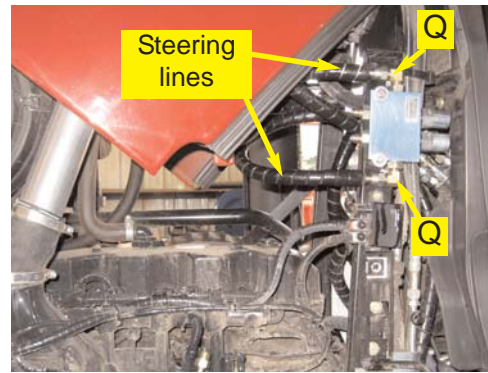

Figure 7d. Steering lines at counter-balance valve.
- e. Disconnect the rubber steering lines and re-connect them to adapter fitting (Q) on the counter-balance valve. (Figure 7d.)